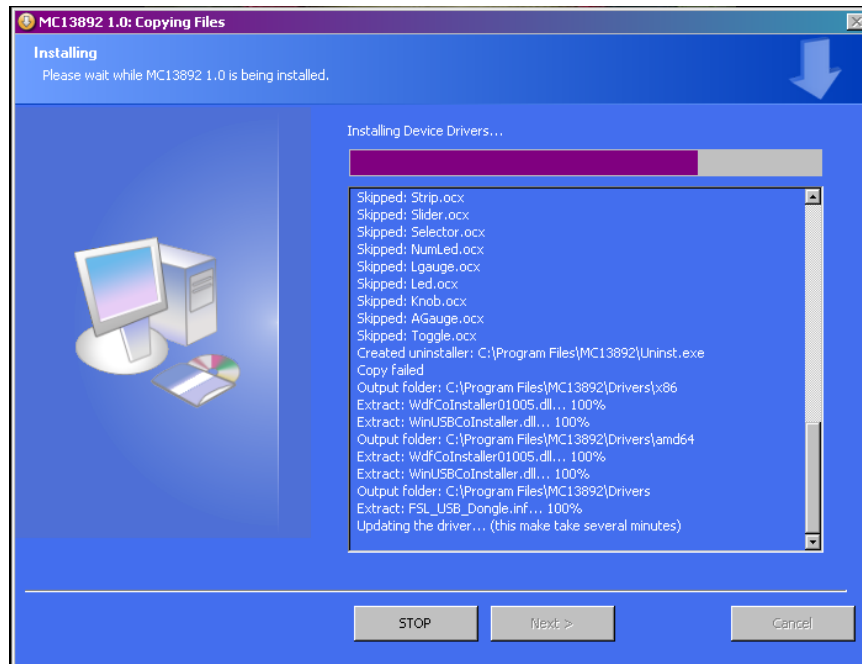

**Figure 15. Choose Component Window**
3. Figure 15 shows the application components and the device drivers for the USB Dongle. There is no reason for users to uncheck the options to install the files.